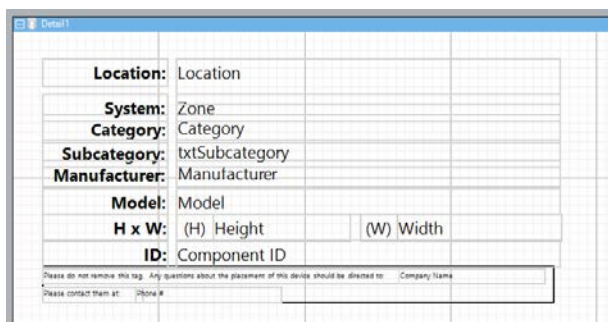
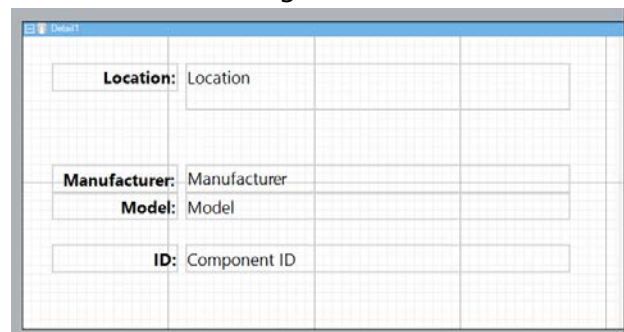

Figure 19. Default Report
Figure 20. Several TextBoxes removed
5. When the report opens, note that several of the textboxes do not apply in this scenario (see Figure 19). Deleted textboxes until the report detail resembles Figure 20.